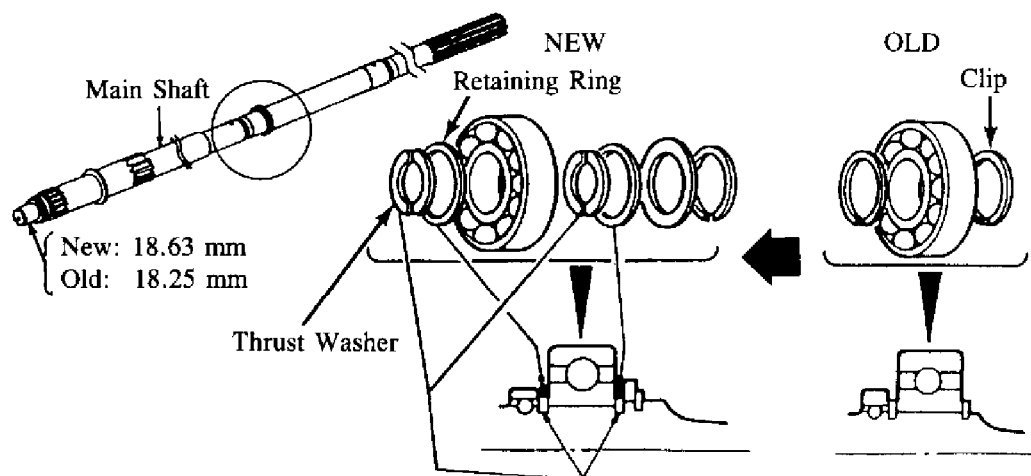

Fig. 2: New Main Shaft Retaining Method
2. The method of retaining the bearing on the main shaft has been changed from clips to thrust washers with retaining rings. See Figure 2.